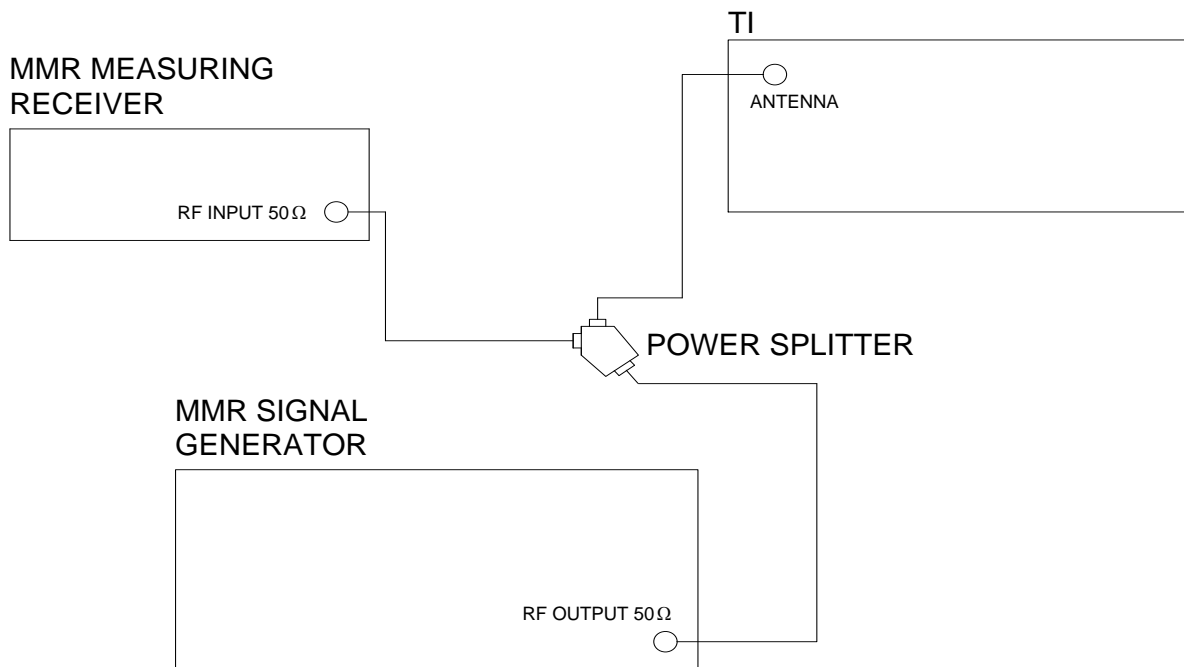

Figure 3.
4.6.1 Connect the equipment as shown in Figure 3.